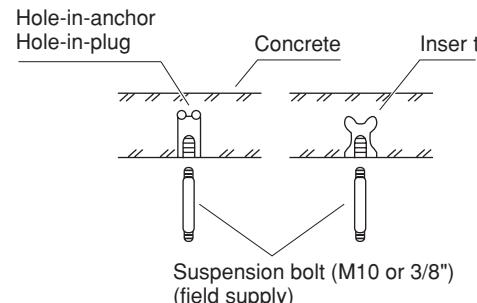

Fig. 3-115
- Insert suspension bolts as shown in Fig. 3-115